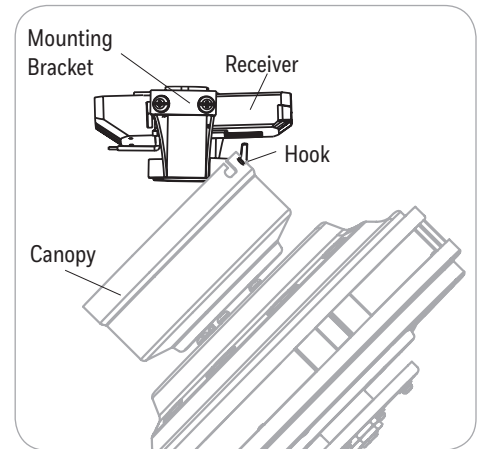

Figure 4.3
3. Raise the motor assembly and place the canopy on the hook of the mounting bracket to free hands during the wiring process (Figure 4.3). Then, insert the receiver from the remote pack into the mounting bracket with the flat side facing the ceiling.